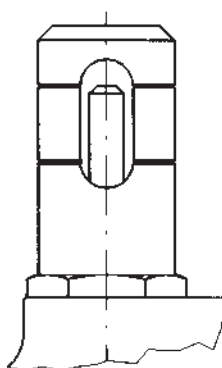

Fig. 17
- 5) Completely increase the setting of pilot 3 by turning the ring 11 clockwise without exceeding the setting of the slam-shut and, if necessary, reduce the setting of the pilot 10 of the monitor. Ensure that the monitor 7 goes to the working position and that the regulator 1 reaches the maximum opening by checking the position of the stroke indicators through the ports (fig. 17).
- 8) Check that the maonitor goes to the fully open position and that the regulator goes to the working position by controlling the position of the stroke indicators through the ports (fig. 17).